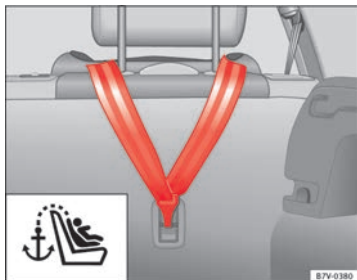

Fig. 28 Upper retaining strap hooked in the luggage compartment
- Hook the upper retaining strap to the corresponding retaining ring (for TOP TETHER) on the back of the seat backrest on the rear seat → Fig. 28.